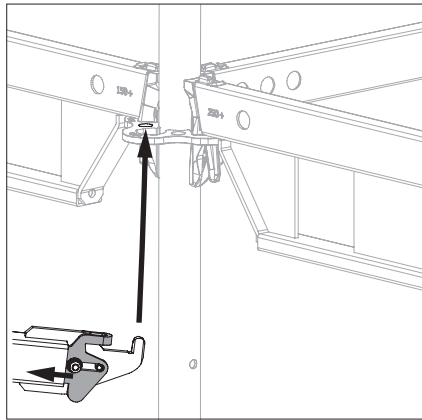

Fig. A4.02c
- 2. Push back slider (20.2) and insert horizontal brace with hook into the brace adapter of the diagonally opposite rosette from below. (Fig. A4.02c)